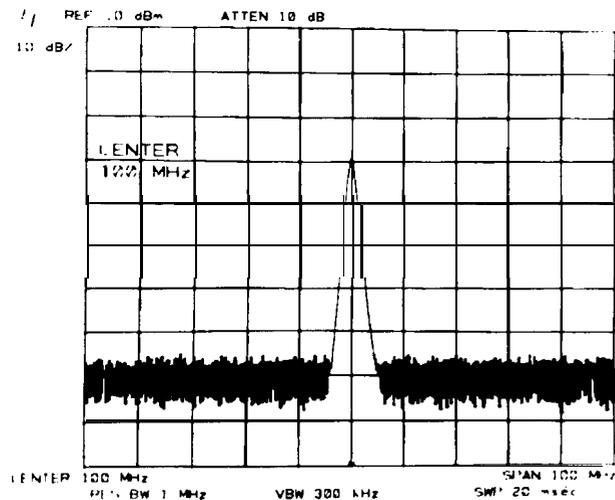

Figure 2-2. Center Frequency Readout Error Measurement
8. Record the **CENTER** readout frequency in the table for each setting. The limits for this frequency are given in the table. See Figure 2-2.